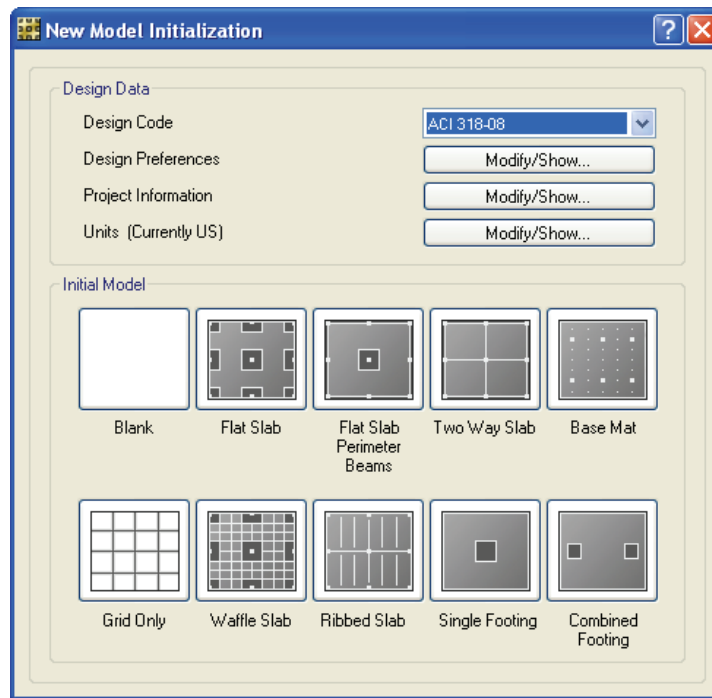

Figure 3 New Model Initialization form
- A. Click the **File menu > New Model** command to access the New Model Initialization form shown in Figure 3. This form is used to specify the starting point of the model creation: a Blank screen, a screen with a Grid Only, or one of eight templates. Default units also may be selected here, along with the design code and preferences.